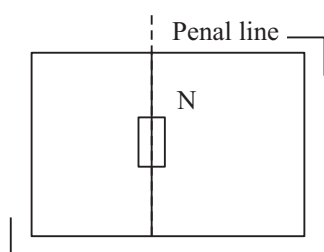
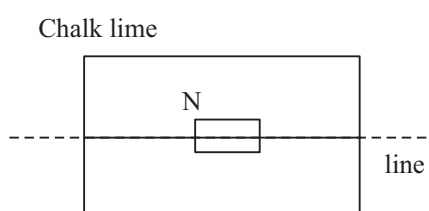

Fig. 28.3
Fig. 28.4
- (iii) Draw a line in pencil through the middle of paper along the short edge for performing the I part of experiment i.e. N-pole of magnet toward north-.as shown in Fig. 28.3. For the II part of the experiment line will have to be drawn parallel to long edge as shown in Fig. 28.4.
- (vi) Place the drawing board such that the line on paper in pencil is parallel to the line drawn in chalk on the table, as shown in two cases in Figures 28.3 and 28.4.
- (i) After placing the magnet as shown in Fig. 28.3 mark the boundary of board in chalk, so that its position is not displaced during the experiment. If at all it accidentally gets displaced, it can be put back in its original position.
- (i) For drawing the magnetic field in this case and locating neutral points place the drawing board with pencil line on paper parallel to long edge of board, along the N-S line of earth, as shown in the Fig. 28.4.